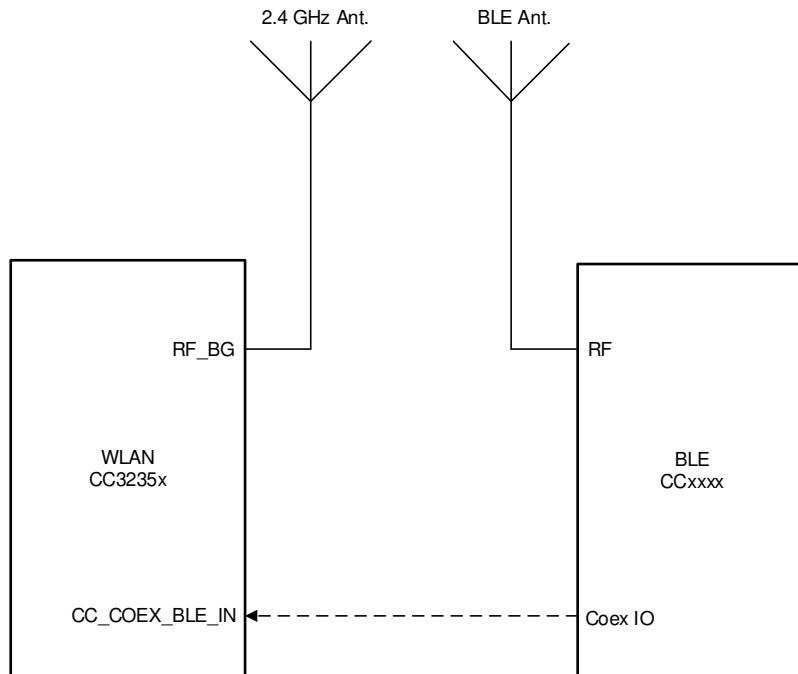

Figure 9-3. Dual-Antenna Coexistence Mode Block Diagram
- 2.4GHz Wi-Fi Band (see Figure 9-3)
Figure 9-3 shows the dual antenna implementation of a complete Bluetooth® low energy and WLAN coexistence network with the WLAN operating on either a 2.4- or a 5GHz band. Note in this implementation no Coex switch is required and only a single GPIO from the BLE device to the CC3235x device is required.